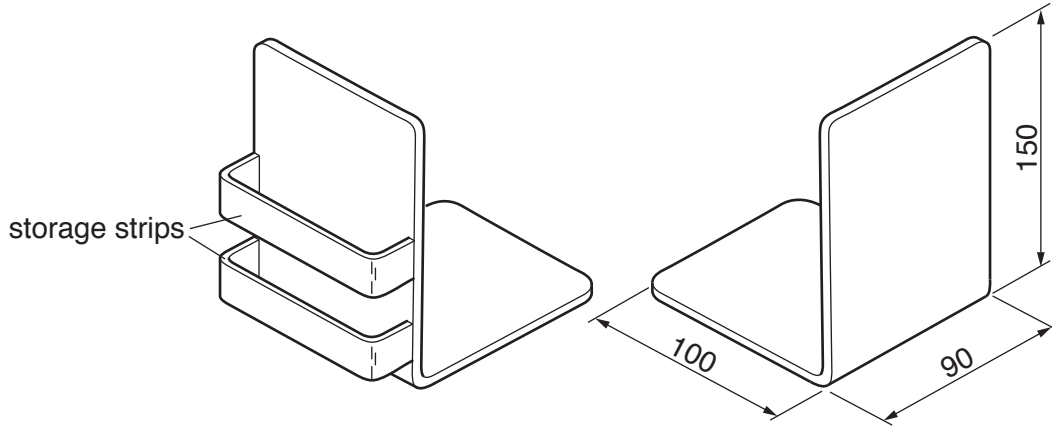

Fig. 7
- 11 Fig. 7 shows two bookends. The bookends could be made from plastic **or** metal. One bookend has two storage strips where pens and pencils could be stored.